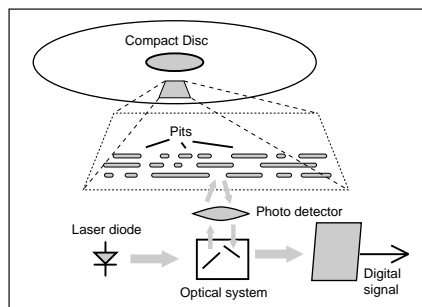

Figure 1
The Compact Disc (CD) contains digitally stored information of audio, video or computer data. The digital signals are physically stored in a spiral track with a length of several kilometers. This data is stored as a pattern of "pits" (cavities) and "lands" (the area between pits) in the CD surface. The length of the pits and lands are detected by an optical pick-up and transformed to "digital symbols" which are used to reconstruct the audio signal. Because of data density and quality requirements, the data on the disc is recorded with a very high precision. The width of the cavities (pits) are only about  $0.6 \mu\text{m}$  and the depth is about  $0.12 \mu\text{m}$ . Nine different symbols called T3...T9 are used, both for pits and for lands (see Figure 1). Each symbol is represented by an electrical pulse having a width of 3...11 clock periods.